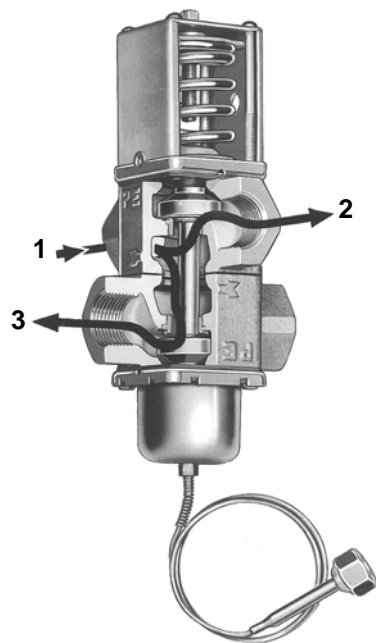

Fig. 1
- Fig. 1**
- For direction of the water flow see fig. 1.